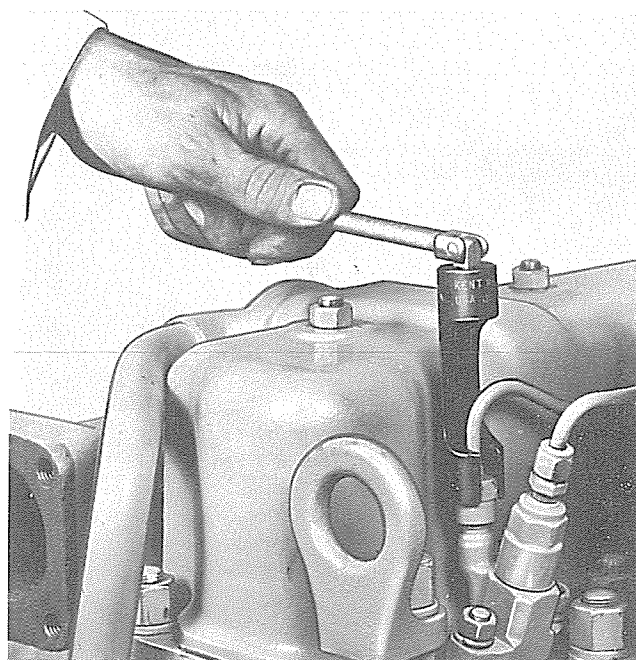

Fig. 8 — Disconnecting Fuel Injection Line
2. Loosen the fuel injection line brackets, disconnect the fuel return manifold and fuel injection line from the nozzle-holder, Fig. 8.